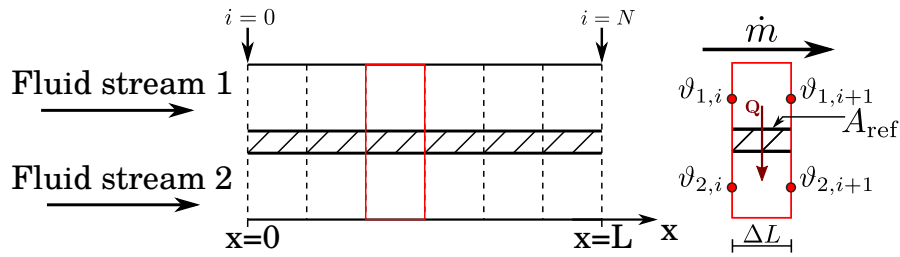

Figure 3: Sketch of the numerical setup with several cells.
The numerical solution for the temperature field requires a division of the heat exchanger into several sub-cells as it is indicated in Fig. 3. The global heat balance in Eq. (4) can be applied to each cell separately allowing for a stepwise solution of the temperature fields. With